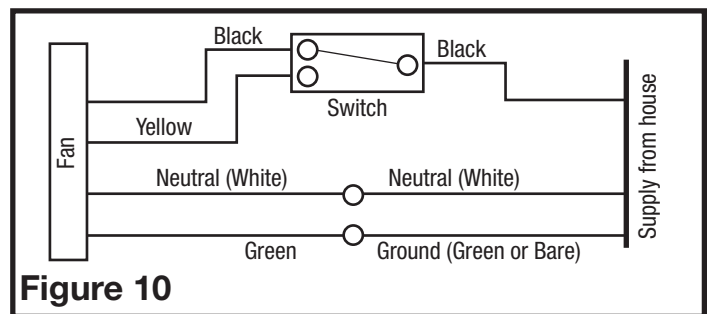

Figure 10
- 3b. From where you have chosen to access the fan's junction box, connect the white wire from the house to the white wire from the fan. Connect the wire from the automatic position on the wall switch to the black wire from the fan, connect the wire from the manual On position on the switch to the yellow wire from the fan. Connect the ground wire from the house to the green wire from the fan housing (**Figure 10**). Use approved methods for all connections.